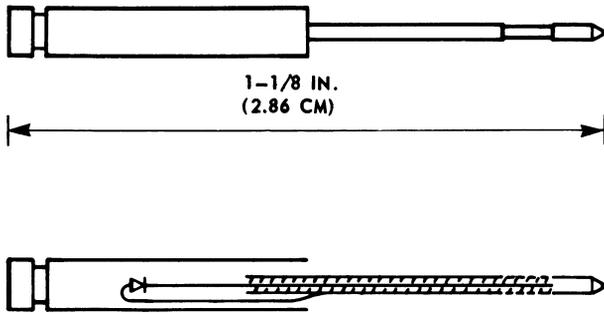

Fig. 9 – Class-of-Service Diode Pin
3.32 The diode pins are 1-1/8 inches (2.86 cm) long and consist of a diode enclosed in a miniature plug. A sketch of a diode pin is shown in Fig. 9.